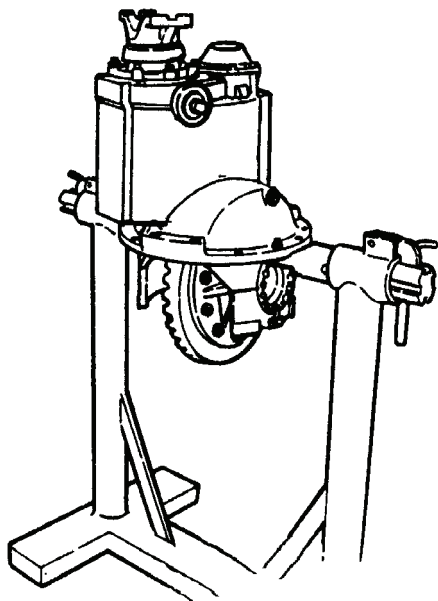

Figure 6. Carrier Mounted in Stand
- (18) On axles with a main differential lock, if air pressure is used to shift the differential to the locked (engaged) position, release the air pressure. Disconnect the air hose from the shift unit.
- (19) Lift the differential carrier by the input yoke or flange and put the assembly in a repair stand. Use a lifting tool for this procedure. **DO NOT LIFT BY HAND.** Figure 6.